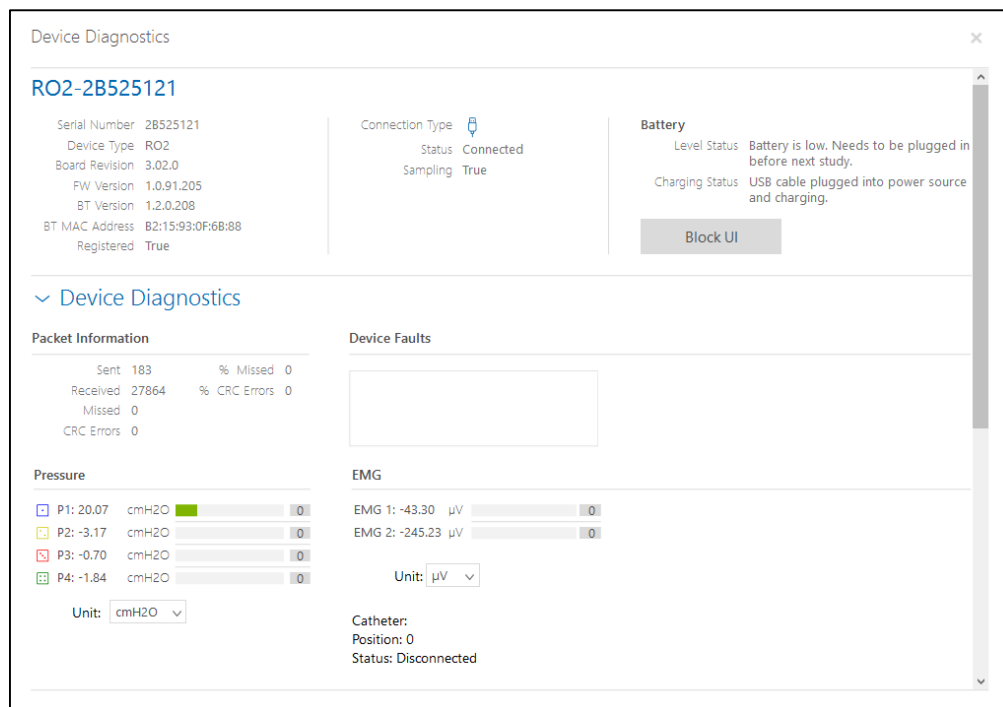

Figure 69: Roam NXT – Device Diagnostics
- Click the **Roam NXT** option, then click the **Run Diagnostics** button. The device diagnostics window will pop-up (Figure 69).